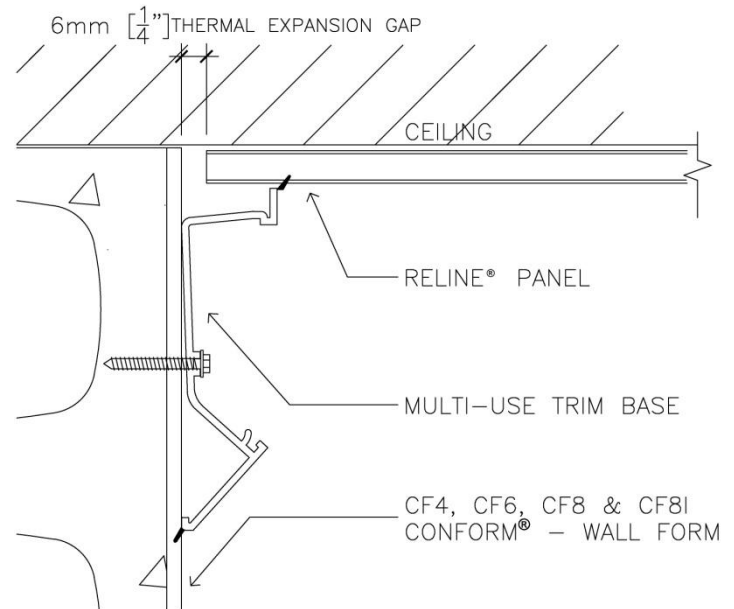

Figure 2 Multi-Use Trim Base Installed
1. Mechanically fasten the base of the multi-use trim to the existing wall. Refer to figure 2. Use only corrosion resistant fasteners (aluminum, stainless steel, or galvanized roofing nails).